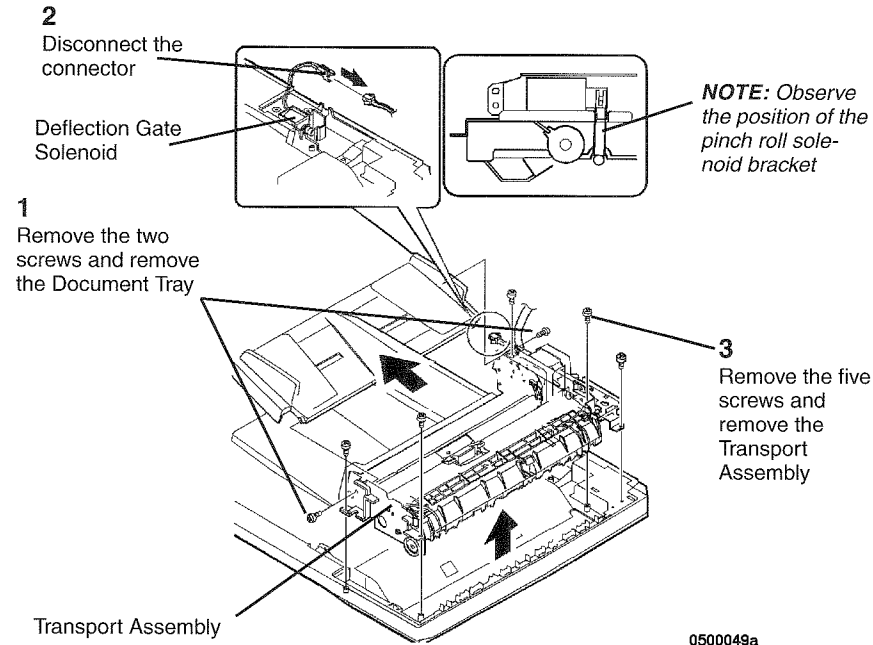

Figure 1 Removing the Transport Assembly
2. ( Figure 1): Remove the Transport Assembly.